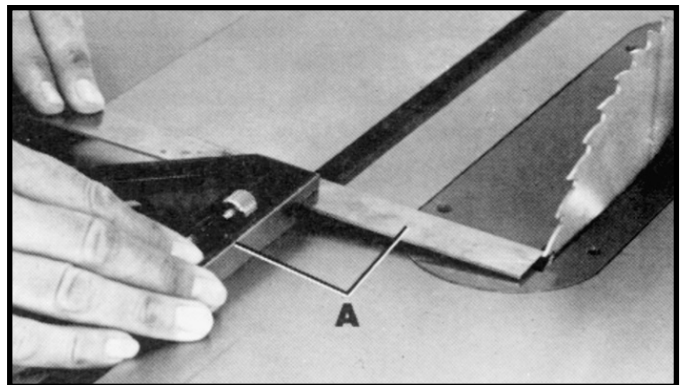

Fig. 35
1. Place a combination square (A) Fig. 35, on the table with one edge of the square in the miter gage slot, as shown, and adjust the square so the rule just touches one of the teeth on the saw blade at the forward position, as shown in Fig. 35. Lock the square in this position.